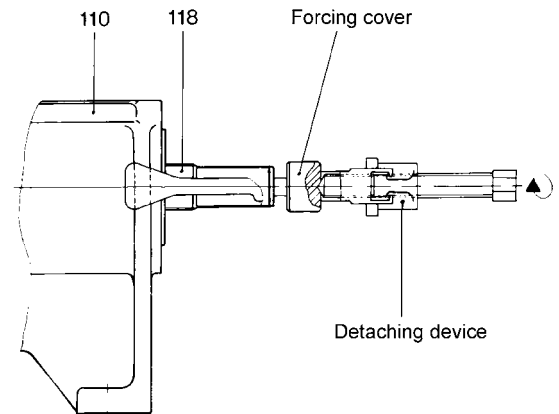

Figure 5: Pressing out the drive shaft
- Dismantle the stator (402) (see Chapter 7.2.1.1).
- Remove the hexagon nuts (607) and serrated lock washers (608) as well as the hexagon screws (606).
- Pull the suction casing (505) across the rotor (401). Make sure that the finely crafted rotor is not damaged.
- Take off the gasket for suction casing (501).
- Pull of the clutch half respectively pulley and remove the feather key (101).
- Unscrew the hexagon nuts (139) and remove the bearing cover (131) with the seal (132).
- Unscrew the bearing nut (116) from the drive shaft (118).
- Press the drive shaft (118) with the attached rotor (401), the attached joint shaft (307) and the mounted shaft seal out of the bearing bracket (110).
- To do so, apply the press-on device to the bearing bracket (110) (see figure 5).